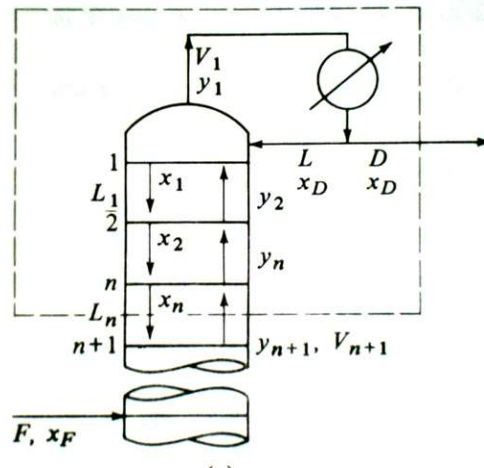

Figure 2 Material balance in an enriching section
1. Enriching Operating Line (Figure 2)